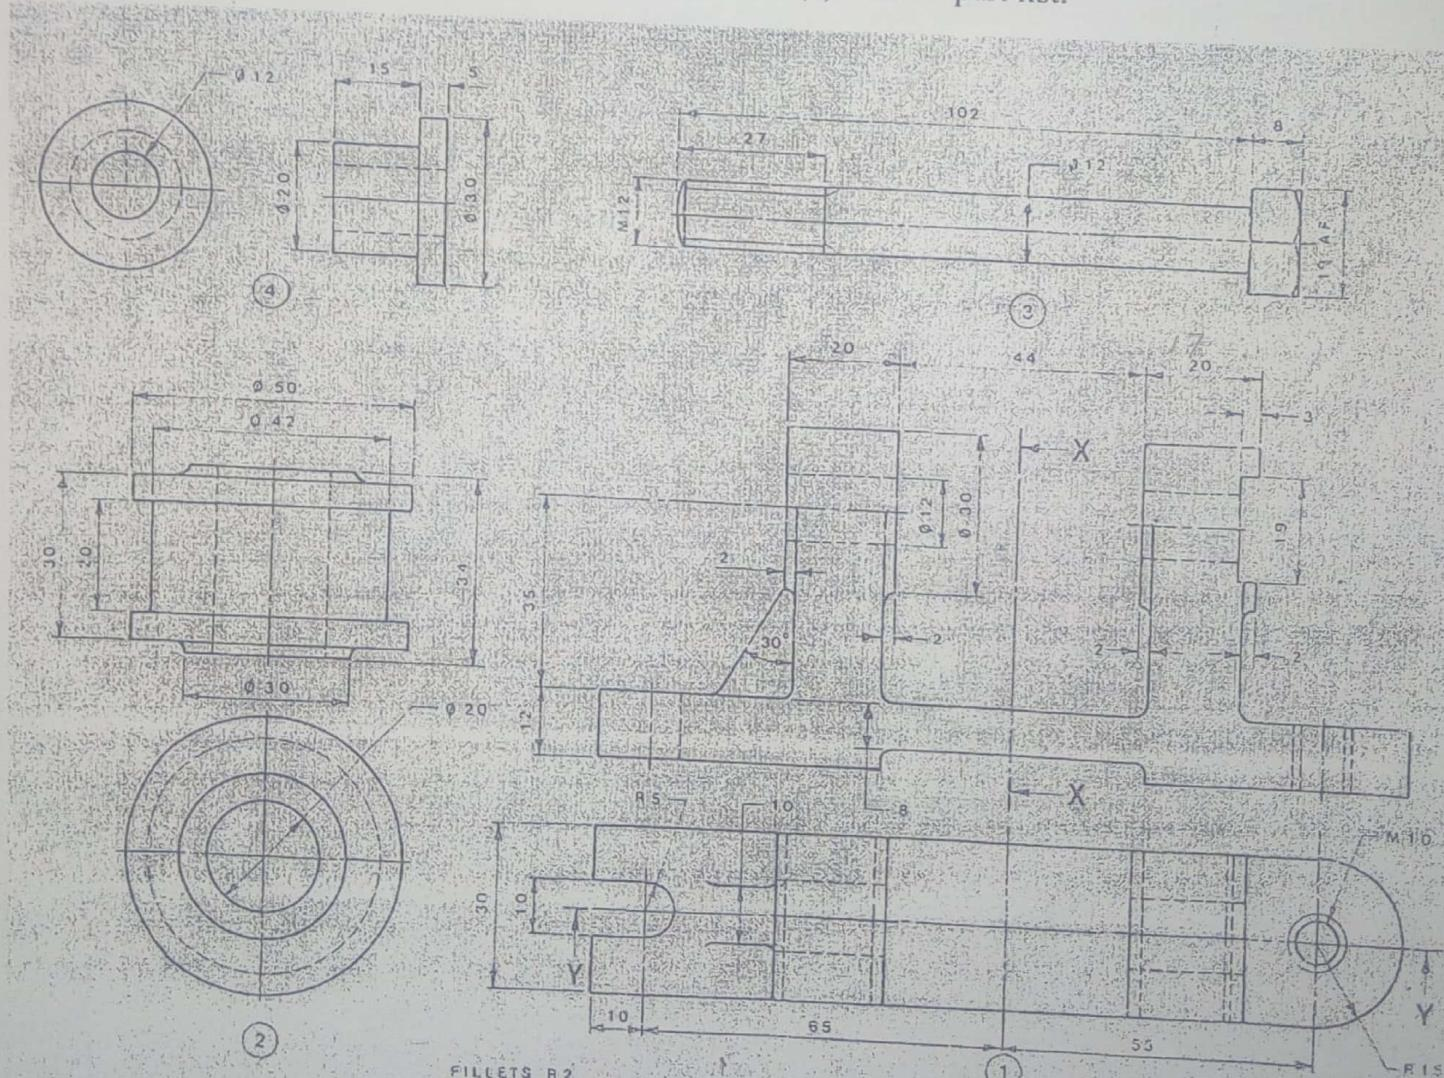

Figure 1
2. Photo copy figure 1 below and add to the given detailed views necessary surface roughness/finish and suggest where necessary the type of fit.
3. Figure 1 shows the details for the BELT PULLEY unit (1) consisting of a belt pulley, the bolt (3) and the bush (4). Draw full size with all parts assembled, including a suitable nut, the following views: